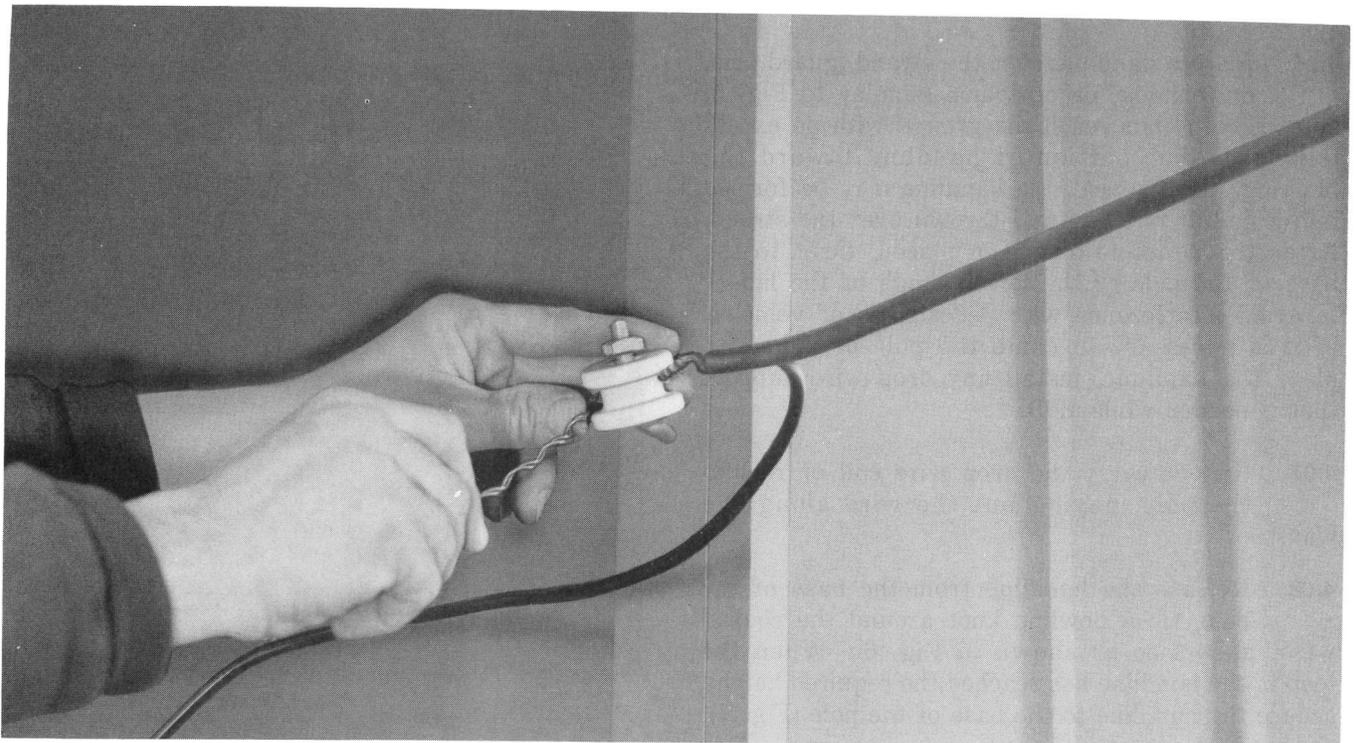

Fig. 3—Attaching F Coaxial Wire to First House Attachment With Preformed Deadend
4.05 Wrap one side of a Preformed deadend around the support wire, place around first house attachment as shown in Fig. 3, then wrap the other side of the Preformed deadend. The end of the support wire should not extend beyond the yellow mark on the Preformed deadend.